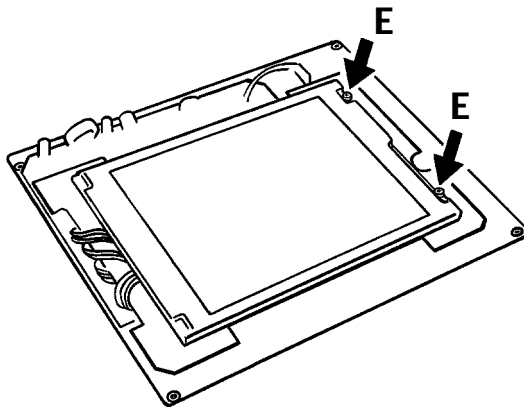
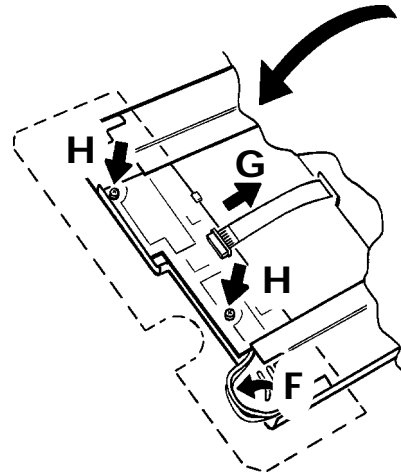

Figure 4.10.3a Removing securing screws
Figure 4.10.3b Circuit board removal (1)
- a. Remove securing screws ('E' in figure 4.10.3a) and turn the display unit over to reveal the circuit board (figure 4.10.3b).
- b. Gently lift the wires out of their channels (F in figure 4.10.3b), remove the flexi-cable ('G') and remove the circuit board retaining screws ('H').
Reassembly is the reverse of the above process. When re-fitting the circuit board, ensure that the wires lie neatly in their channels ('F' in figure 4.10.3b above) or early failure will result.